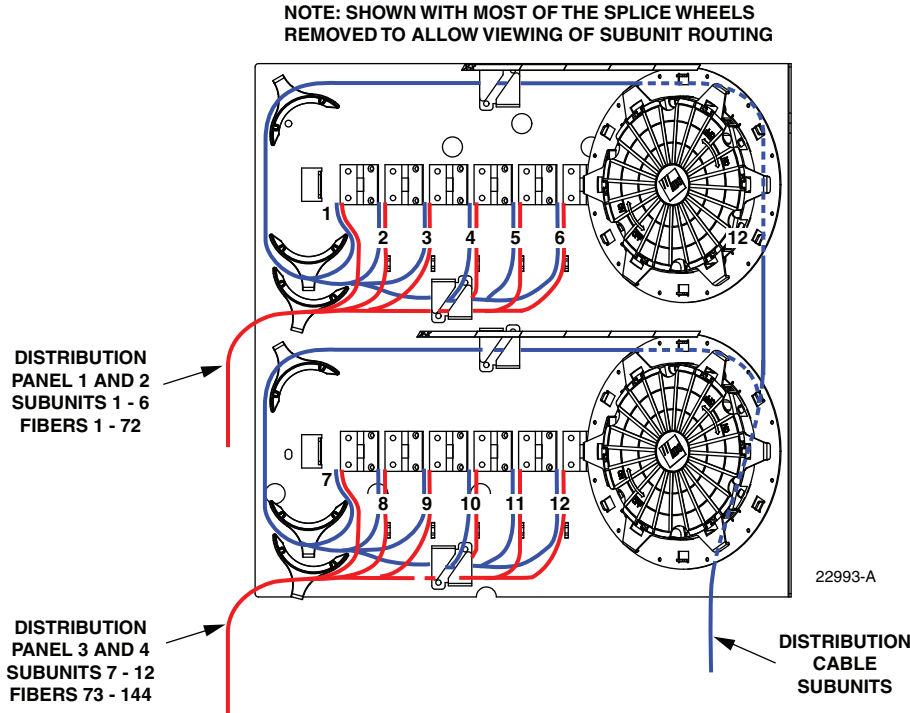

Figure 34. Distribution Cable Subunit Routing to Splice Wheels
4. Beginning at the distribution cable fiber breakout point, route each distribution cable subunit to the tie point below the appropriate splice wheel as shown in Figure 34.